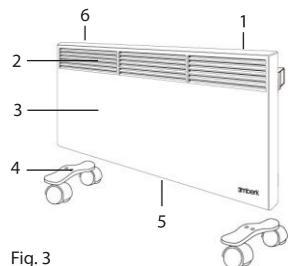

Fig. 3
4. CONVECTOR DESCRIPTION (FIG. 3)